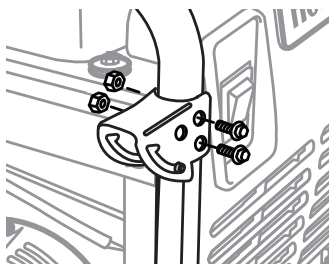

FIGURE 12: Handle Bracket to Frame
2. Hold handle pivot bracket over pre-drilled holes on frame as shown in Figure 12.